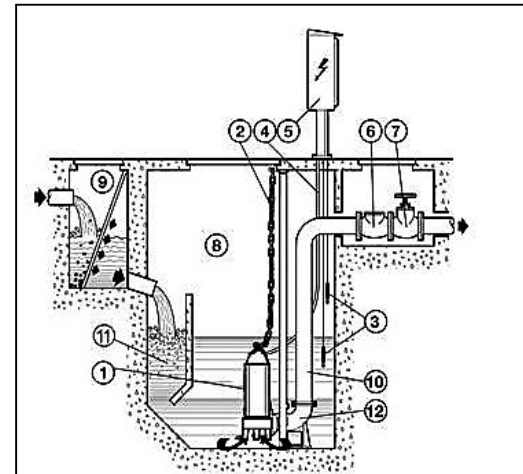

Fig. 6
- 2) **Fixed:** the electric pump is positioned with the support basis on the bottom of the tank (Fig. 6).
5.2.2 Fixed installation with automatic hooking on the support (fig. 6)
For the electric pumps without built-in float switch, it is necessary to install a control system with probes (fig.6) or float; or other equipment that ensures the minimum level of liquid and protects the electric pump against dry running.